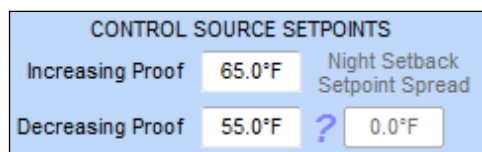

Figure 39: Control Source Setpoints for Lead Relay for Lead / Lag Control
- **Lead Relay for Lead/Lag Control** – The GPC-XP can perform 1 Lead/Lag start function. If this option is selected, you can also select a Control Source input in the next field to be used as a Proof of Operation to allow switching to the Lag Relay upon a failure. This proof can either be a binary contact activation or an analog input level. If your Proof is an analog input level, you can then configure either an Increasing or Decreasing Proof Setpoint (**Figure 39, page 24**).
If the Control Method for this Relay is Lead Relay for Lead/Lag Control, then the Setpoint field in Figure 39 below will appear: